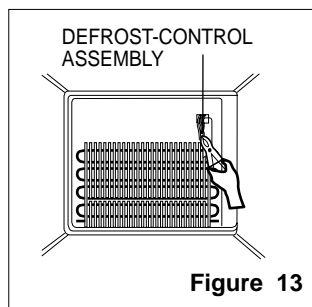

Figure 13
2. Separate the connector with the Defrost Control assembly and replace the Defrost Control assembly after cutting the tie wrap. (Figure 13).